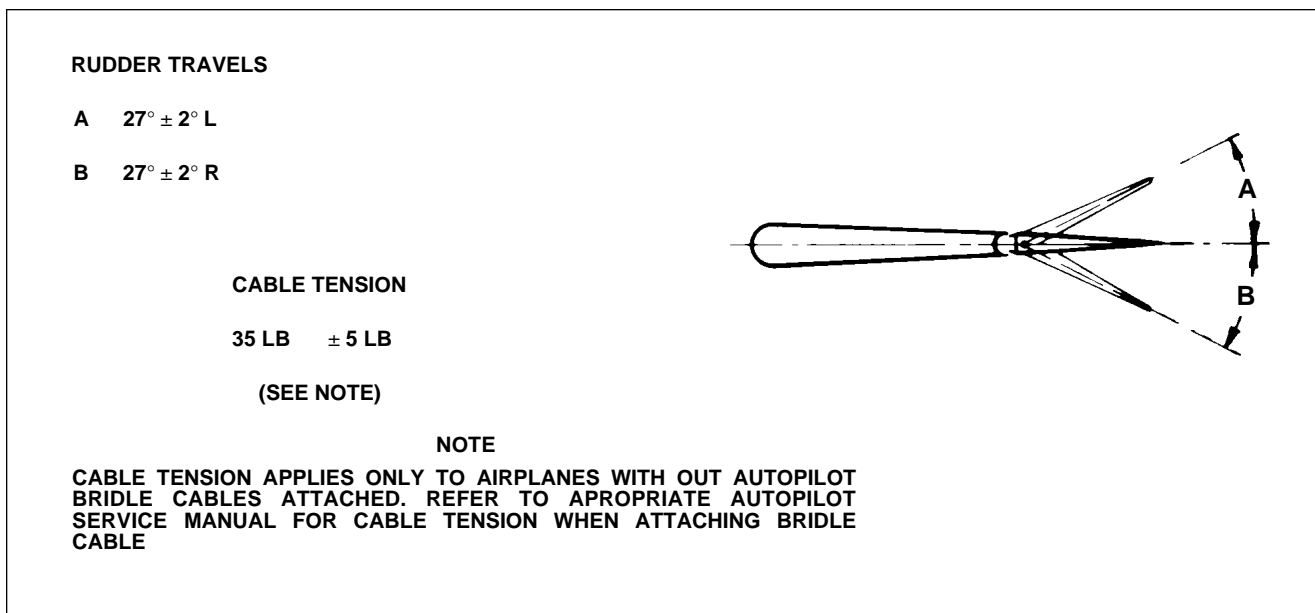

Figure 27-19. Rudder Travel Adjustments
- c. Swing rudder in the other direction and check travel as directed in step b. d. If rudder travel is incorrect (showing a gap between the tool and any part of the control surfaces), remove tail cone fairing and set stops to correct rudder travel. (Refer to Figure 27-19.)
- d. Adjust turnbuckles in aft section of fuselage for proper cable tension per Figure 27-19. Allow rudder to align at neutral position. (Determine neutral position by standing behind airplane and sighting rudder with the vertical stabilizer or stabilator trim screw center.)